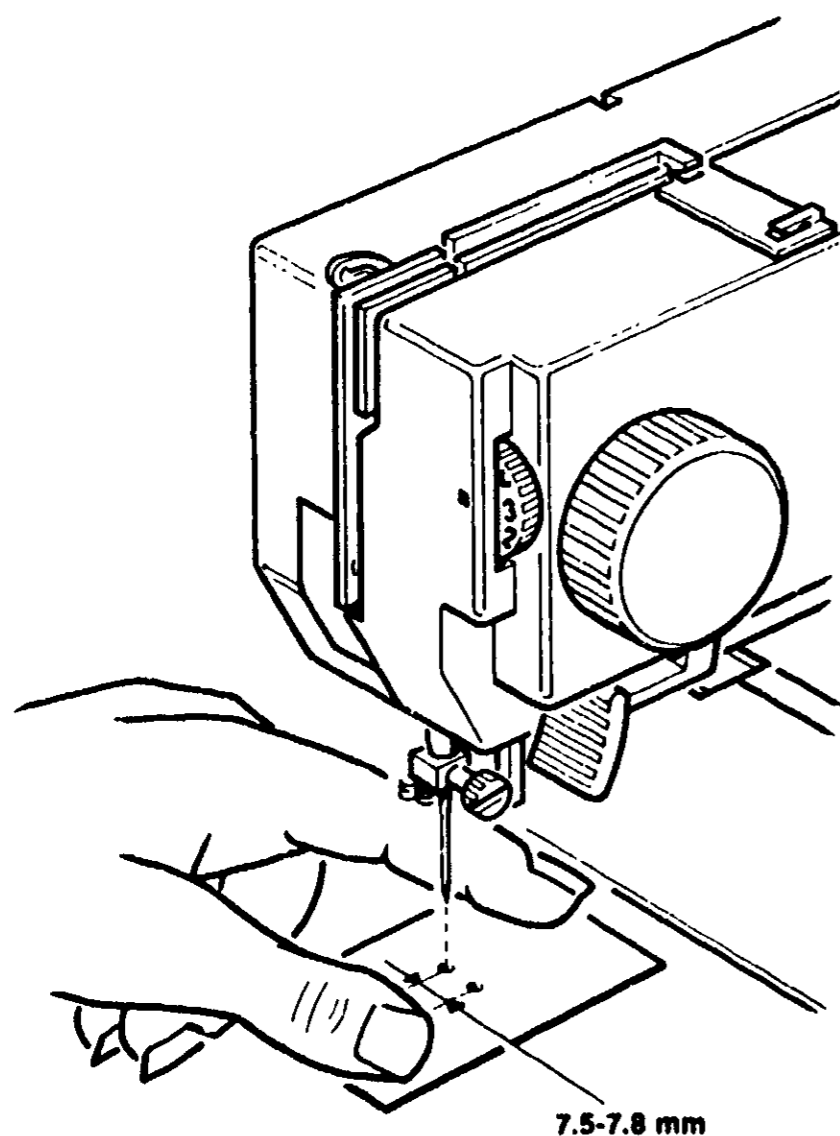

FIGURE 30
- Place a firm piece of paper over needle plate. Manually rotate handwheel toward you through one complete zigzag cycle. Remove the paper and measure the distance between the two holes. The correct distance will be 7.5-7.8 mm (Figure 30)